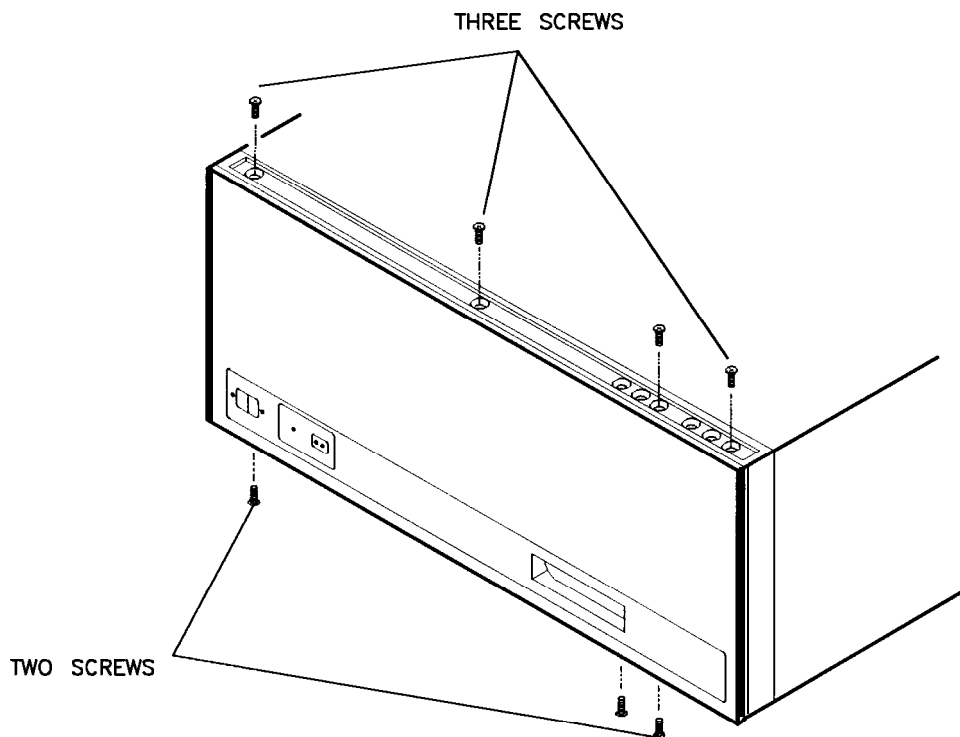

Figure 7-31. Front Panel Screw Locations
1. Remove *three* of the four screws under the trim strip. Refer to Figure 7-31.